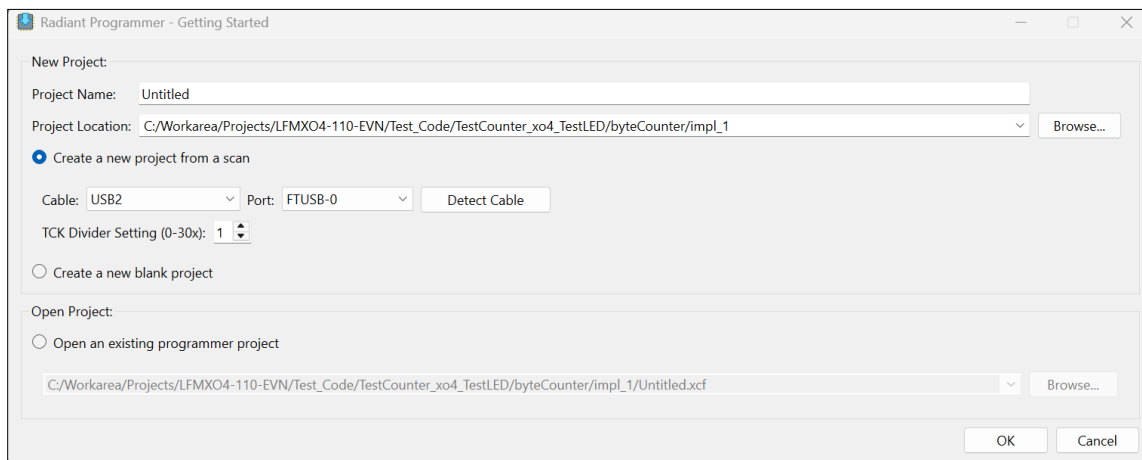

Figure 3.2. Starting Programmer
3. Verify that your PC's USB hub detects the cable on Port 0, making it available for use with the Lattice Radiant Programmer 2025.2 or later. See Figure 3.2.